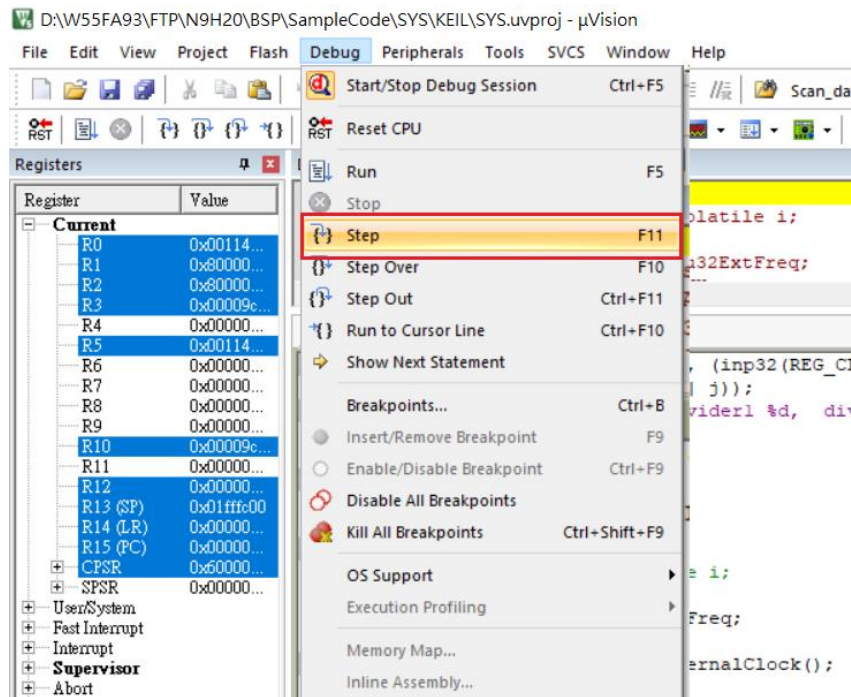

Figure 2-9 Step & Step Over
- Step & Step Over the function call as shown in Figure 2-9.